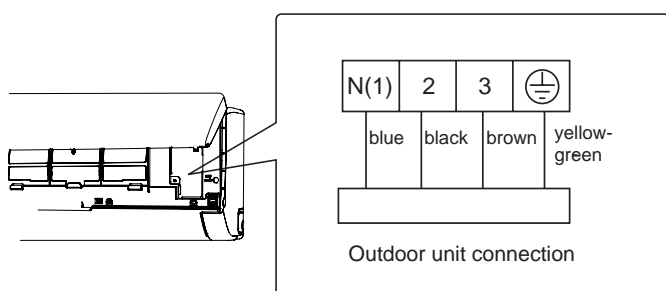

Fig.13
(3) Remove the wire clip; connect the power connection wire to the wiring terminal according to the color; tighten the screw and then fix the power connection wire with wire clip.(As show in Fig.13)